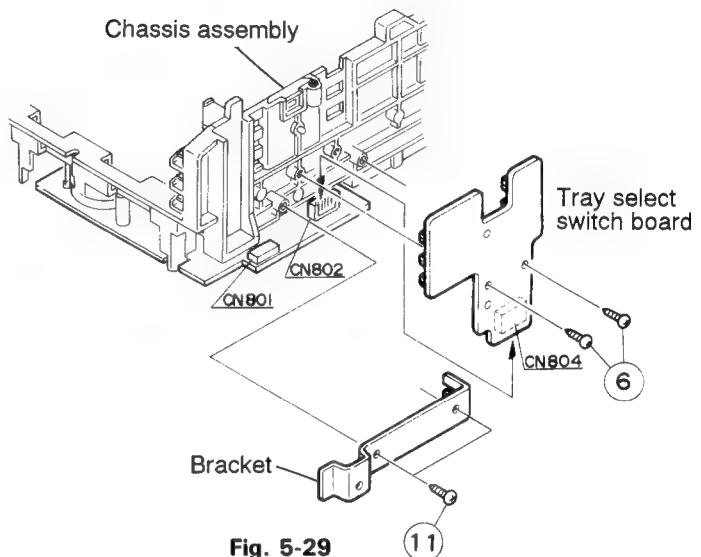

Fig. 5-29
- Remove the two screws (6) retaining the actuator motor board (See Fig. 5-29).
- Remove the two screws (7) retaining the tray select switch board (See Fig. 5-29).